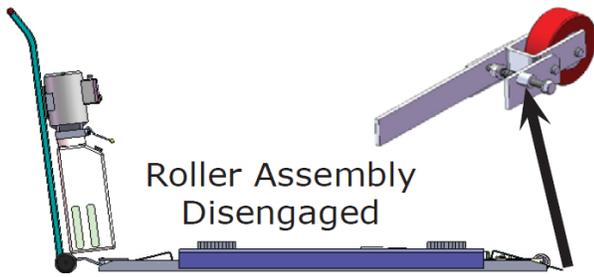

Fig.14
- Be sure the roller assembly must be disengaged when lifting vehicle (see Fig. 14)